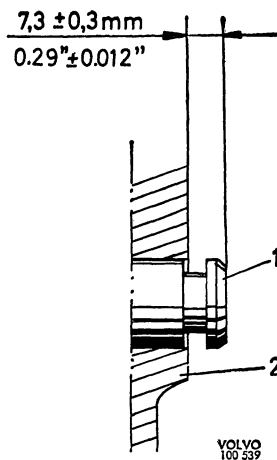

Fig. 4-20. Fitting reverse shaft
1. Fit the striker lever and striker. Fit the reverse gear and reverse shaft. The reverse shaft is fitted so that it projects 7.0—7.6 mm (0.276—0.300 inches) outside the gearbox housing, see Fig. 4-20.